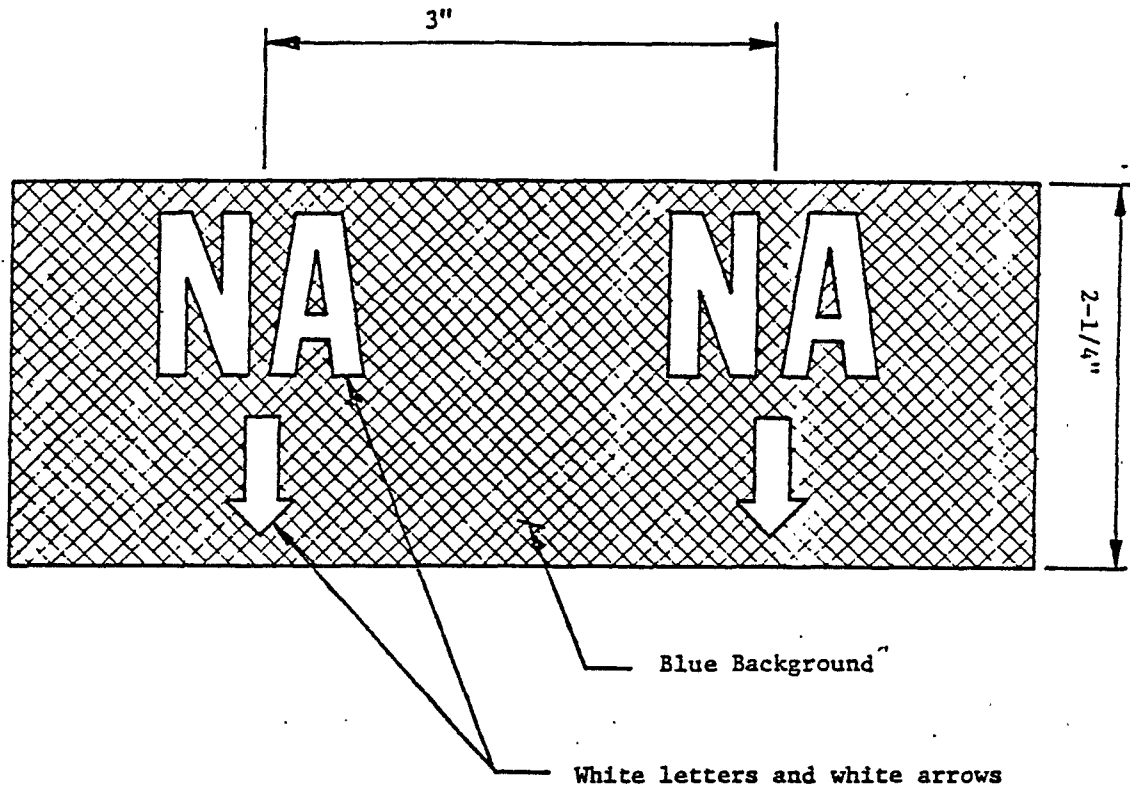

FIGURE 1 — TAPE FOR IDENTIFICATION
3.1 For identification place strategically located strips of tape labeled 'NA' around the circumference of the pipe insulation covering or the equipment insulation covering. Position the tape with the arrows pointing in the direction in which the indicated insulation runs (Figure 1). Class II, III, and IV locations.
5.1 Specifications (See Figure 1).